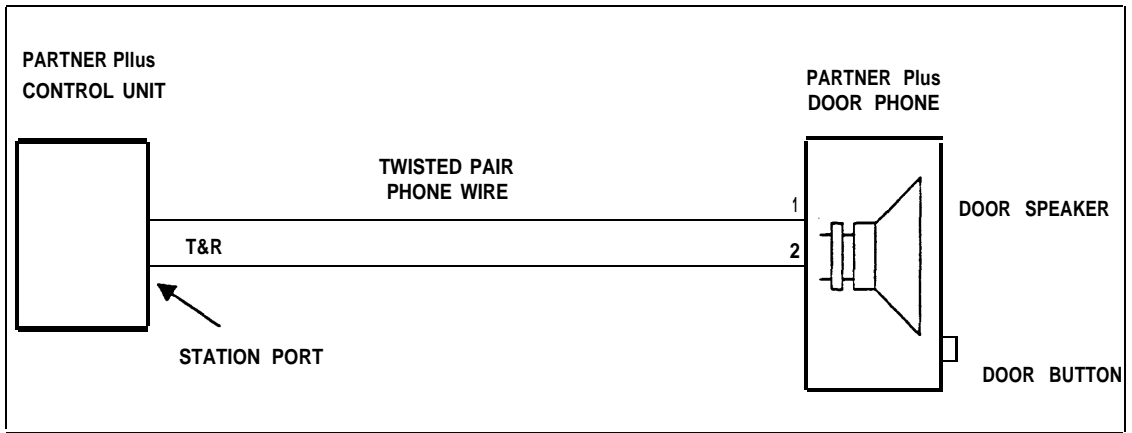
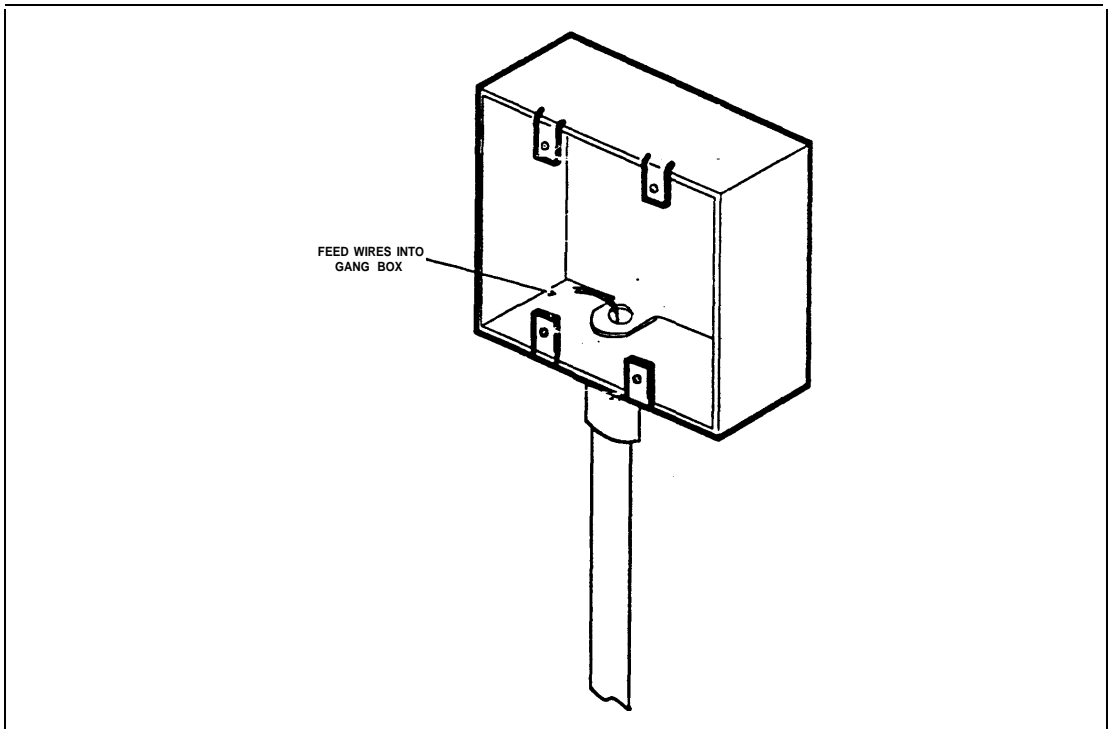
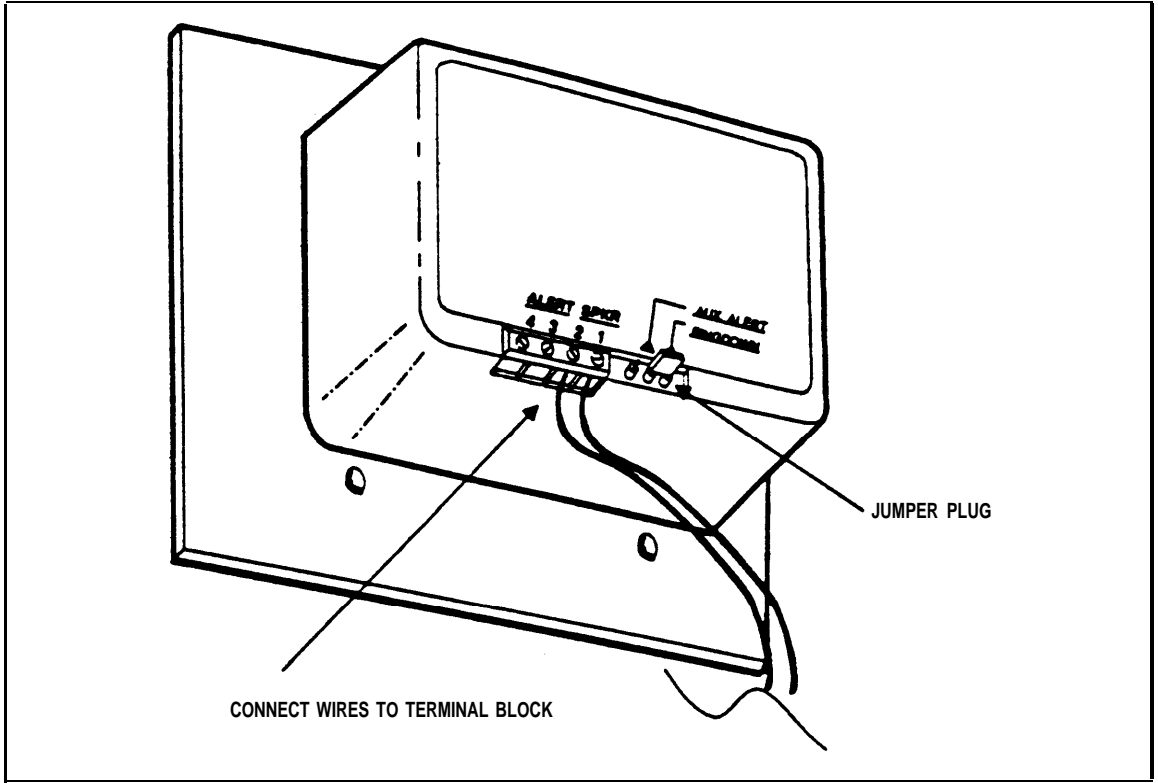

Figure 2-4. PARTNER™ Plus Wiring Diagram
Figure 2-5. Feed Wires Into Gang Box
Figure 2-6. Connect Wires to PARTNER™ Plus Door Phone Terminal Block
*The jumper plug on the back panel of the PARTNER™ Plus Door Speaker (see Figure 2-6) must be in the RINGDOWN position for proper operation.*
The PARTNER™ Plus Door Phone back panel has two sets of terminals; one set is labeled ALERT the other labeled TIP/RING (refer to Figure 2-6). The TIP/RING terminals connect to your PARTNER™ Plus telephone system and must use twisted pair phone wire. See Figure 2-4 for wiring diagram. Follow the steps below:
2. Route wires through conduit (if necessary) and feed into double-gang outlet box. See Figure 2-5.
3. Cut wires, leaving at least six (6) extra inches for connection to PARTNER™ Plus Door Phone Terminal strip.
5. Loosen each of the terminal block screws and insert exposed wire ends into appropriate terminal block locations. Tighten terminal block screws (see Figure 2-6). Ensure wire connections are correct before continuing.
6. Place the jumper plug in the position shown in Figure 2-6 (factory default setting). Program your PARTNER™ Plus telephone system for the phone number(s) to be called when the PARTNER™ Plus Door Phone goes off-hook.